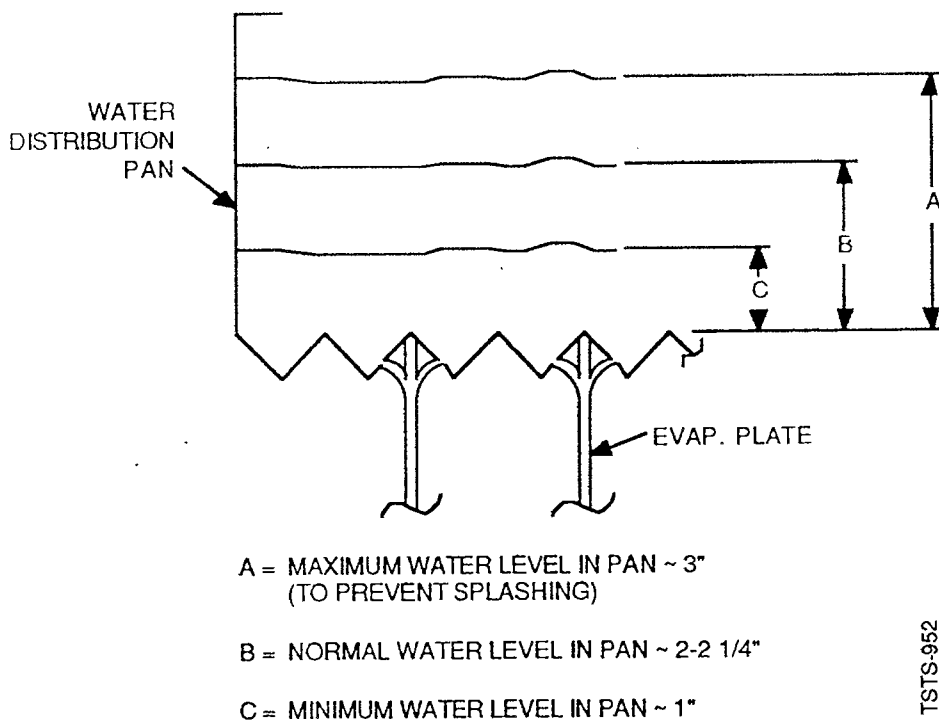

Figure 3-25 Water Distribution Pan Water Level
- Water level in the water distribution pan is a minimum 1 inch above the 'V' in the pan at all points. Refer to Figure 3-25. Normal and high levels are also shown.